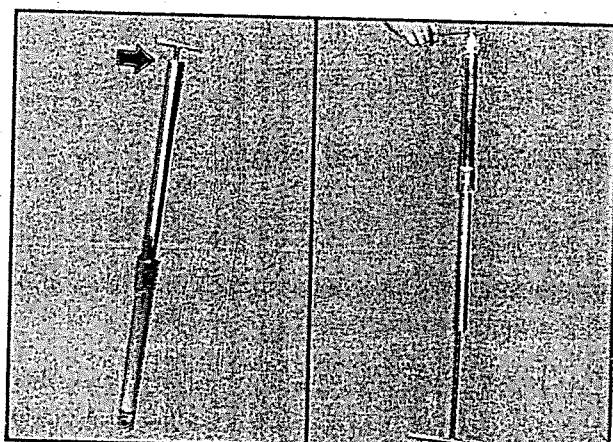
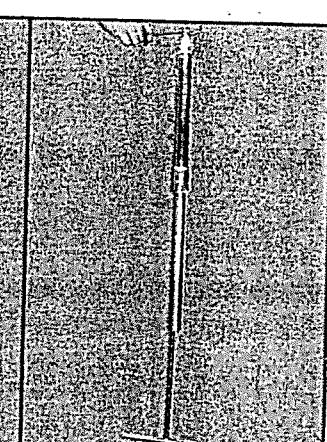

Fig 6.28
Fig 6.28A
- Remove inner tube nut using special tool (fig 6.28 and fig 6.28A)